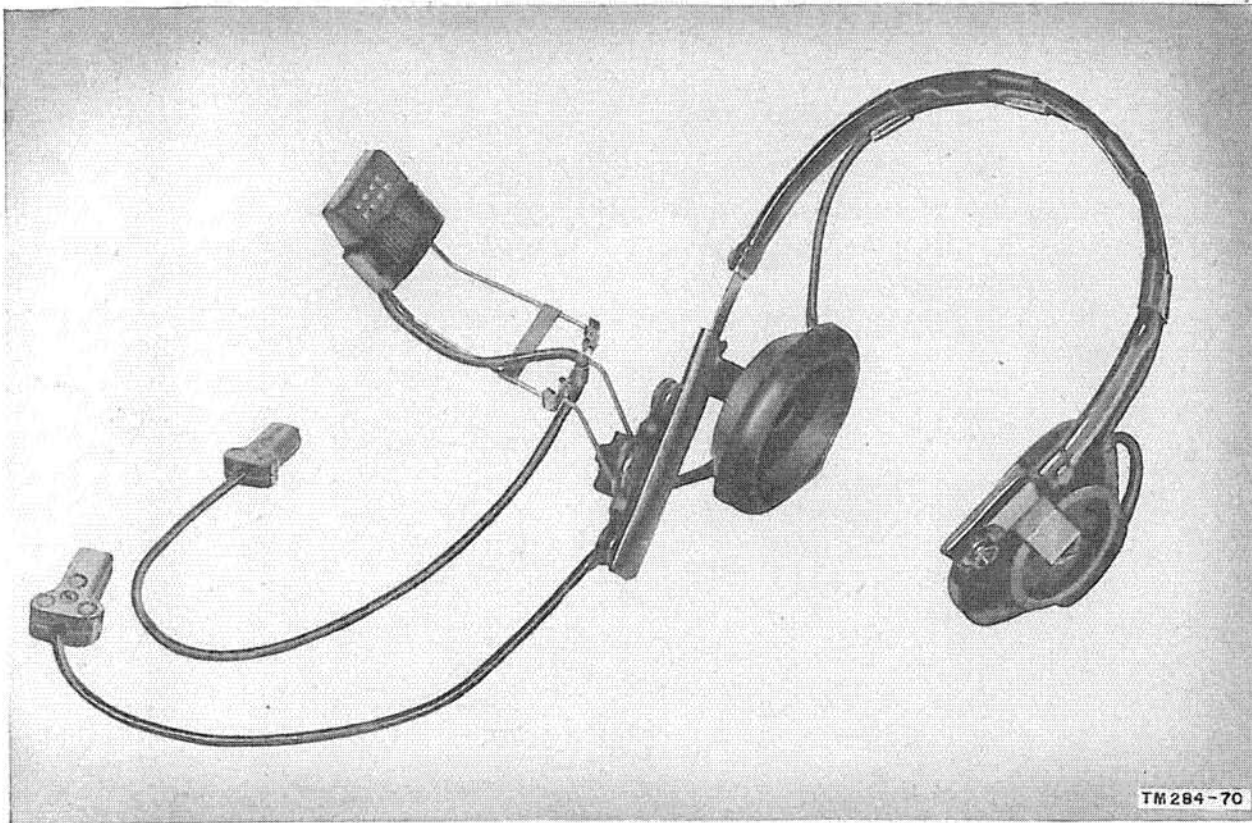

Figure 14. Headset-Microphone H-63/U.
c. HEADSET-MICROPHONE H-63/U. Headset-Microphone H-63/U (fig. 14) consists of two series-connected 300-ohm receivers and a 40- to 100-ohm microphone. The microphone is mounted on an adjustable boom attached to the receiver headband. Two 14-inch conductors from the microphone and headset are terminated in two-pin and three-pin jacks, respectively. These jacks will mate with the plugs on Chest Set Group AN/GSA-6.